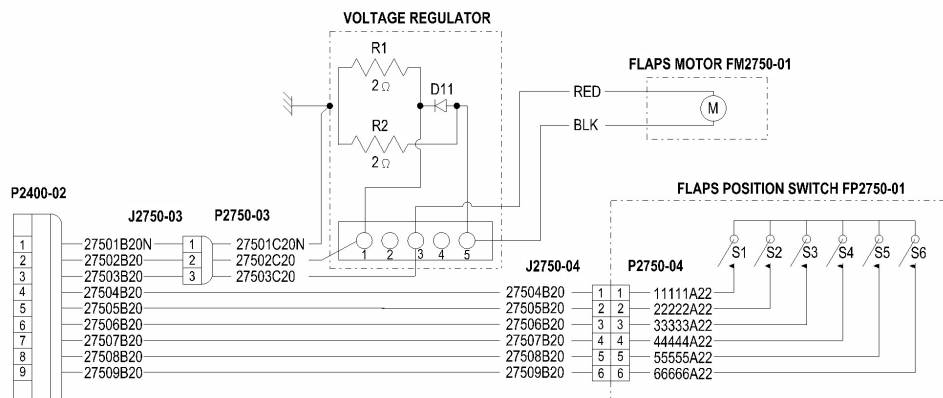
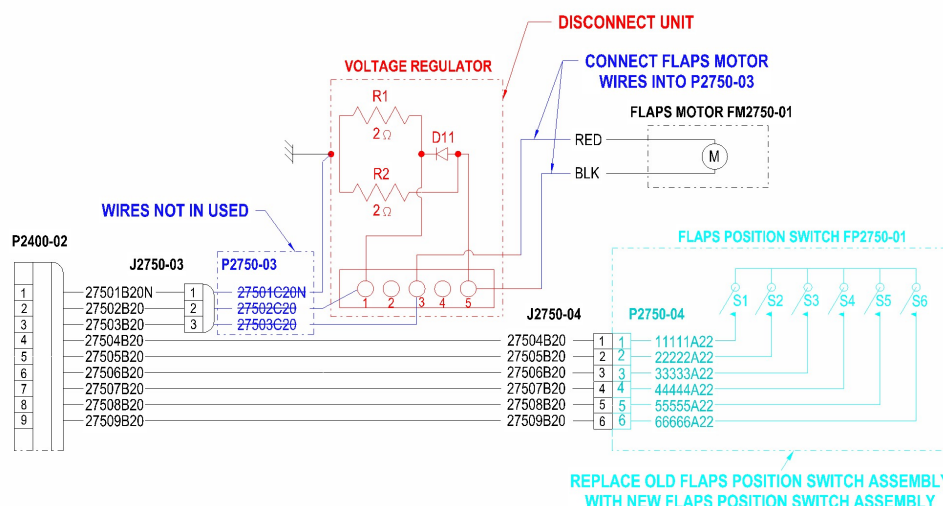

FIGURE 1.1 (SHOWS ORIGINAL WIRING CURRENTLY IN AIRCRAFT)
FIGURE 1.2 (SHOWS ORIGINAL WIRING WITH PROPOSED FIX)
8. If your DA 20-A1 aircraft has a single 6 pin connector (J2750-04) configuration, connected directly to the flaps position switch assembly, reference Figures 1.1, 1.2, and 1.3 for electrical wiring.
Figure 1.1 shows the original wiring currently in the aircraft, Figure 1.2 shows the original wiring with the proposed fix, and Figure 1.3 shows the wiring after all the work is done.
9. Disconnect all wires from the voltage regulator; reference Figures 1.2 and 1.3.
10. Swap flap motor wires 27502B16 and 27503B16 or RED and BLACK in connector P2750-03 in the aircraft; reference Figures 1.2 and 1.3. Connect the P2750-03 connector into the J3750-03 connector.